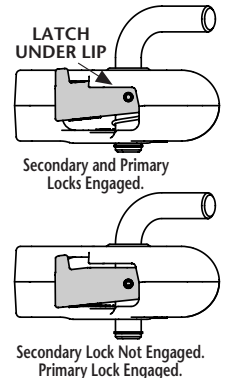

FIGURE 2
5. Push the latch closed. Verify that the primary and secondary locks engage. See **FIGURE 2**.